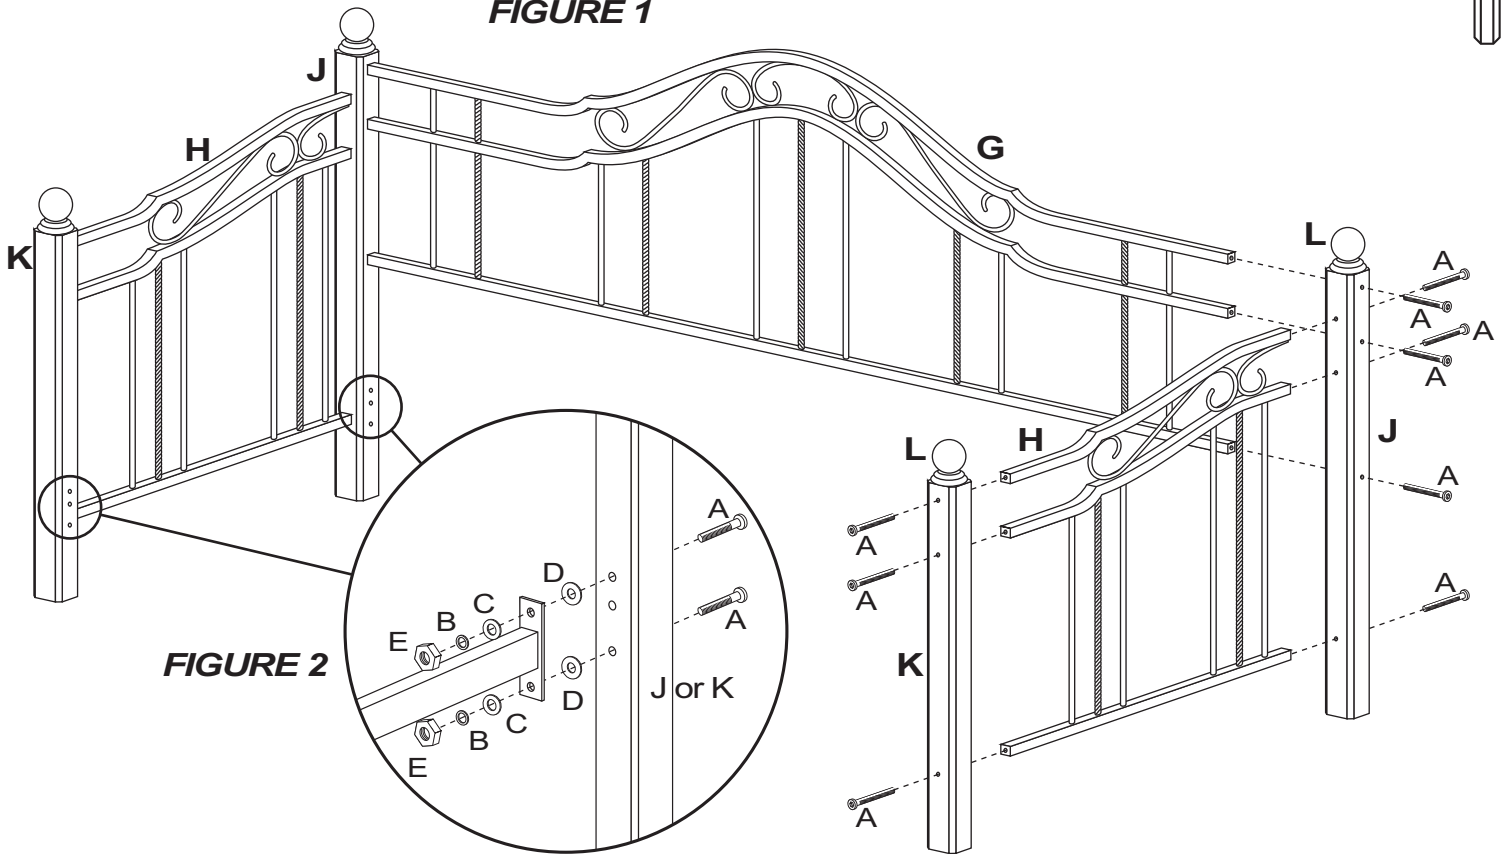

FIGURE 2
Finally, attach Link Spring (*Not Included) using 2 Allen Bolts (A) from the outside, 2 Rubber Washers (D), 2 Flat Washers (C), 2 Spring Washers (B) & 2 Hex Nuts (E) per each end. Tighten all bolts and nuts. See Figure 2. The assembly is now complete.